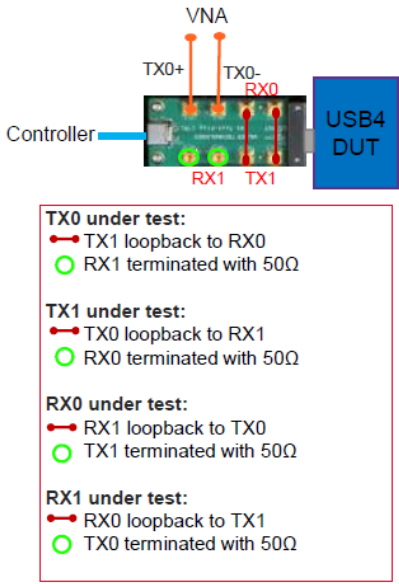

Figure 125 SMP test fixture - Tx/Rx lane switching
- 8 In case of SMP test fixture, Tx/Rx lane under test can be switched as shown in Figure 125.